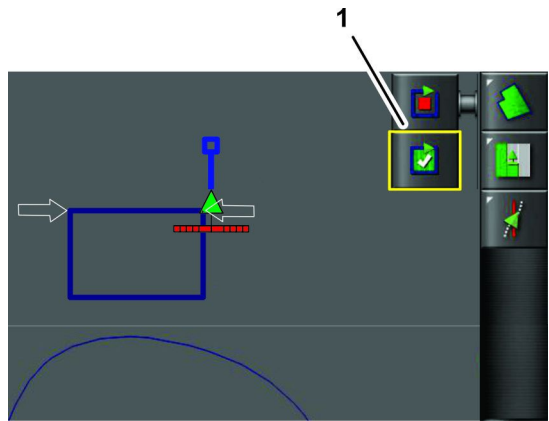

Figure 50
6. Align the outside, center part of the left front tire at the last point, and stop the machine (Figure 50).
7. Press the COMPLETE FIELD BOUNDARY RECORDING icon (Figure 50).